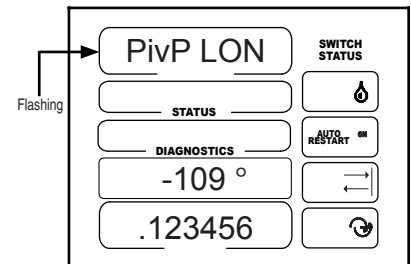

Figure 47-2
4. PivP LON should be flashing. Default longitude is 180°. See figure 47-2.